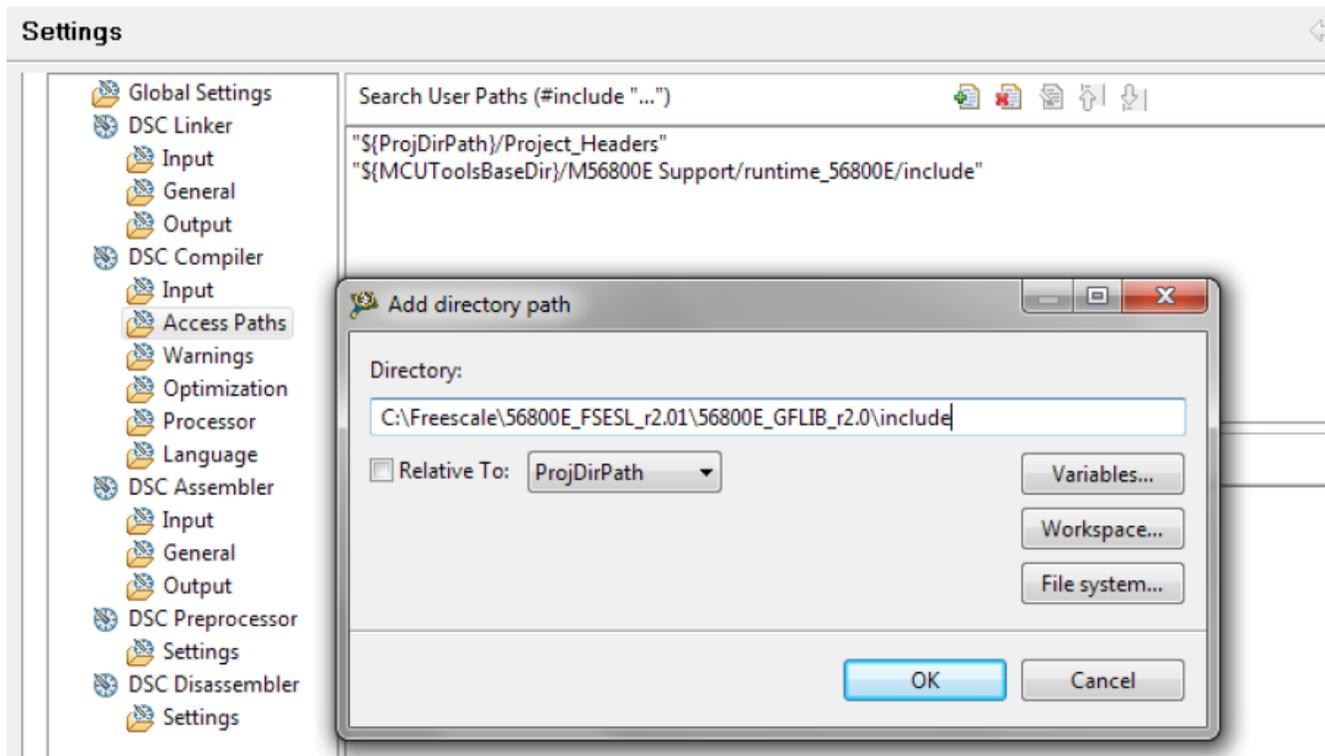

Figure 10. DSC Compiler settings
10. In this dialog, deselect the Relative To option and look for the library path or just type C:\Freescaler56800E_FSLESL_r2.01\56800E_GFLIB_r2.0\include, in the box and click OK. Now, the library path is added into the first dialog. See Figure 10.